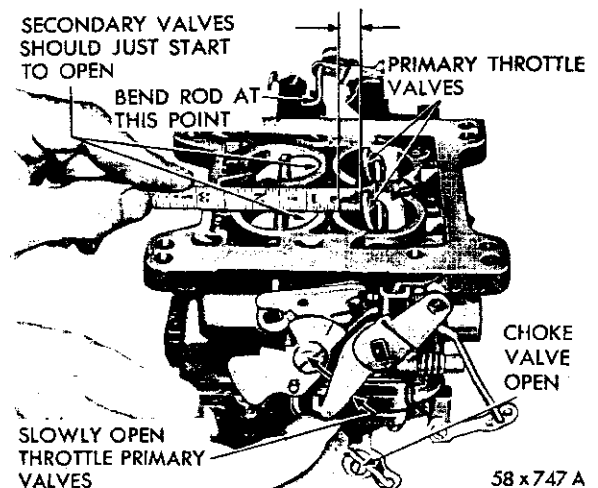
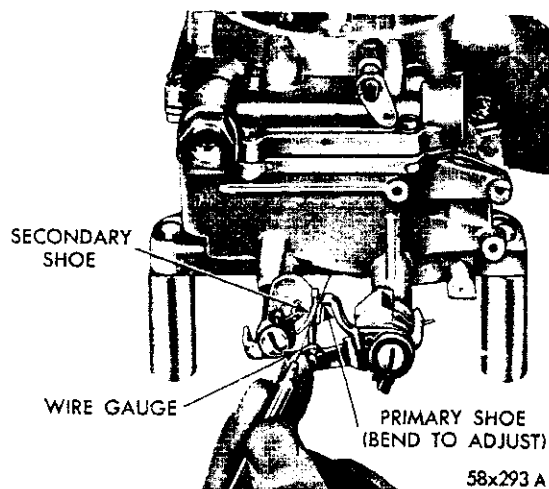

Fig. 17—Measuring the Secondary Throttle Opening
Fig. 18—Measuring the Clearance Between Closing Shoes
(1) To measure the secondary throttle lever adjustment, block the choke valve in the wide open position and invert the carburetor.
(2) Slowly open the primary throttle valves until it is possible to measure $1\frac{1}{4}$ inch between the lower edge of the primary valve and the bore (opposite idle port) as shown in Figure 17. At this measurement, the secondary valves should just start to open.
(3) The stop lugs on both the primary and secondary throttle levers should contact the bosses on the flange at the same time.
(4) If an adjustment is necessary, bend the secondary throttle operating rod at the angle, using Tool T109-213, until correct adjustment has been obtained.
(5) At wide open throttle, the primary and secondary throttle valves should reach the full vertical position.
(6) With the primary and secondary throttle valves in the tightly closed position, it should be possible to insert Tool T109-29 (.020 inch) wire gauge, between the positive closing shoes on the secondary throttle levers, as shown in Figure 18.
(7) If an adjustment is necessary, bend the shoe on the secondary throttle lever, using Tool T109-22, until correct clearance has been obtained.